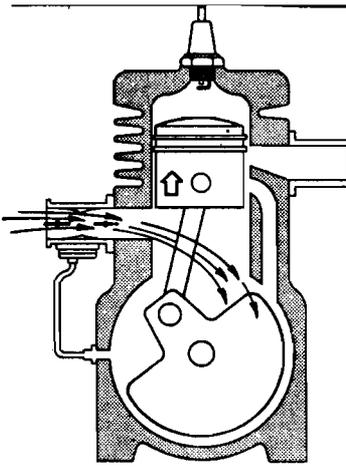

FIG. 3
1. **INTAKE:** Piston on the down stroke forces the fuel-air mixture from the crankcase into the combustion chamber through the transfer ports. (Fig. 3)